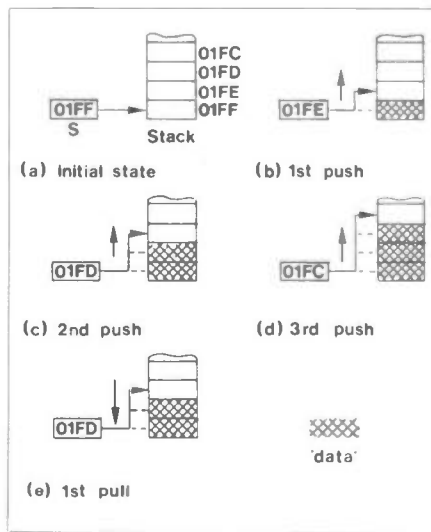

Figure 1. Pushing and pulling the stack
Associated with the stack is a register known as the Stack Pointer (S). Its function is to keep track of how far into the stack the data has been pushed. It actually points at the next free location. Figure 1 shows the contents of the Stack Pointer after three successive pushes and one pull, in a 6502 system. Notice how the stack 'grows upwards' during the pushing operations; also how the Stack Pointer register is decremented at each successive push. When data is pulled from the stack the reverse occurs. The last data byte entered is withdrawn and the Stack Pointer is incremented. Considering that the area of RAM reserved for the stack is a whole 'page', i.e. 256 locations, each capable of holding a data byte, it is reasonable to ask why so much space is devoted to this function, particularly when we appreciate, as we shall soon, that only the contents of the Program Counter, Accumulator and Processor Status Register can be pushed onto the stack anyway.